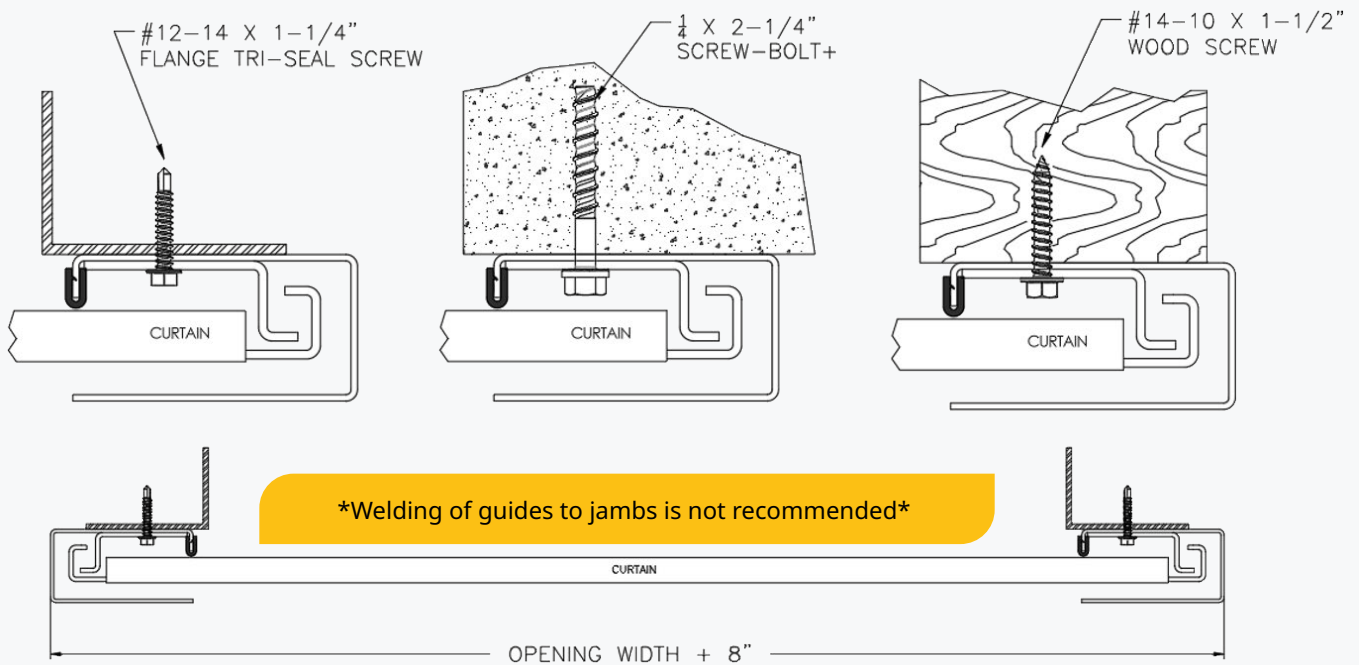

figure 17a
- ◆ Ensure wind locks and wind bar are properly positioned before rolling the door down. See Figure 17a.
- ✦ Slide (2) 1/4-20 x 5/8 carriage bolts from the inside of each guide into square head stop holes.